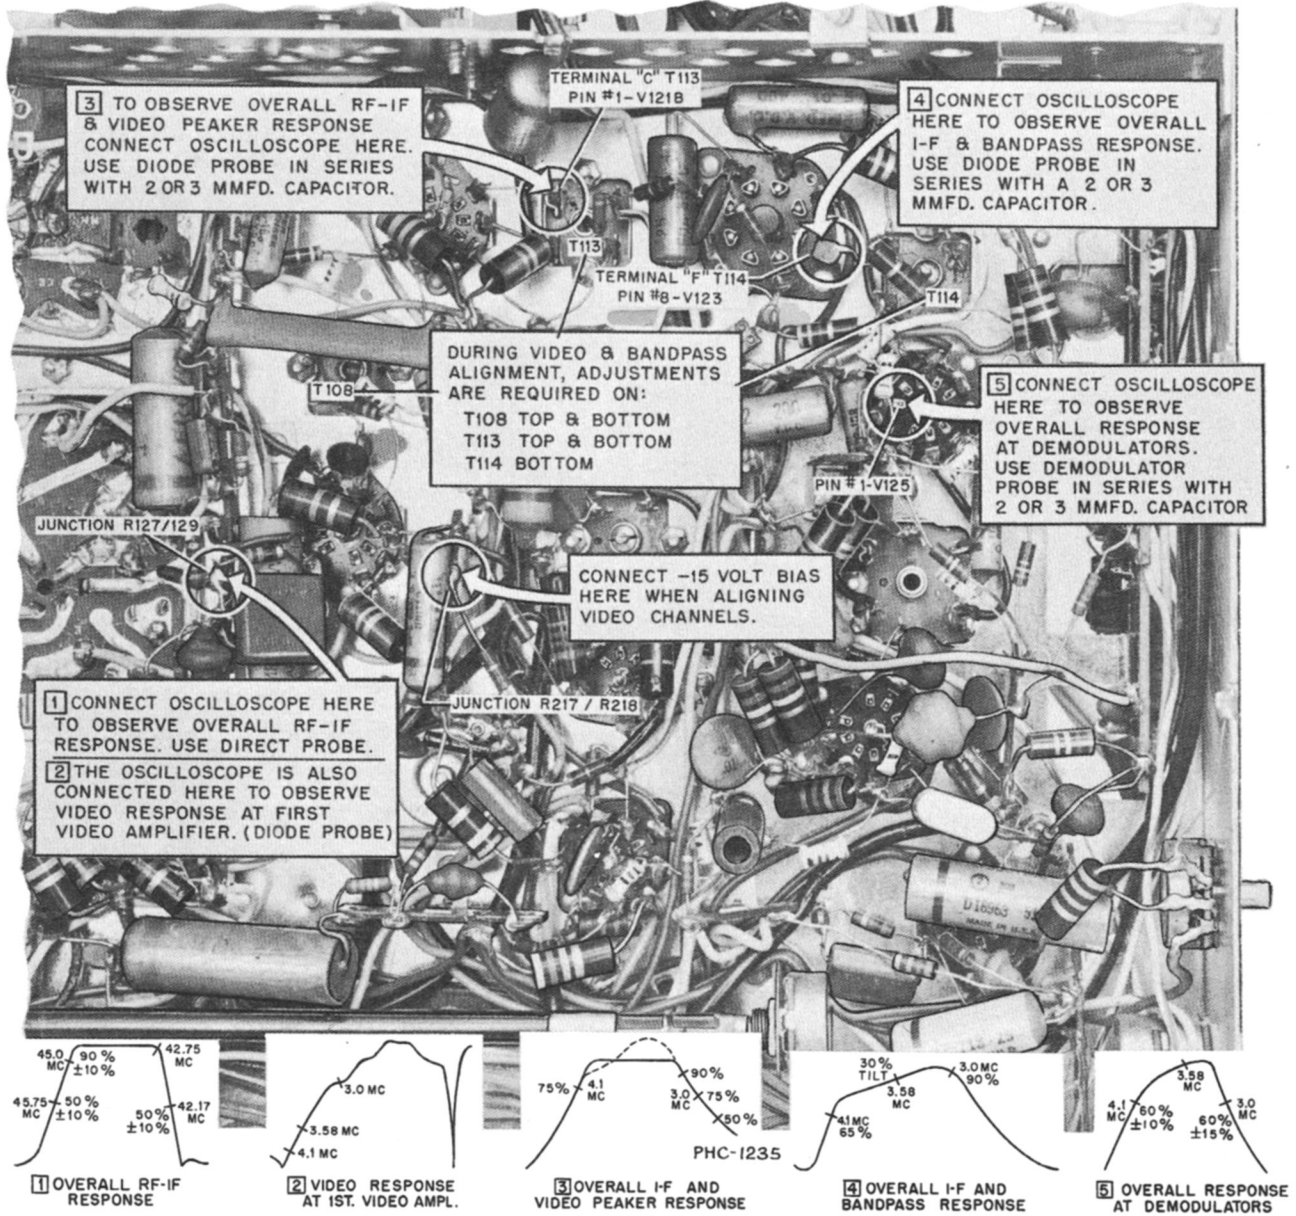

Fig. 174—Test Points and Procedure, Equipment Set-up. Overall R-F—I-F, Video and Bandpass Amplifier Alignment
1. Connect the oscilloscope, using the direct probe, to junction R-127/R-129 of the receiver, see figure 174.
7. Connect the Diode Demodulator Probe to the oscilloscope and fasten a 2 or 3 mmfd. capacitor to the tip of the probe for circuit isolation. *This capacitor should remain connected for the balance of the alignment.* Check the response curve at junction R-127/R-129. It should appear similar to that shown for point "2" of figure 174.
10. Connect the oscilloscope to terminal "F" of T-114 the demodulator driver transformer (refer to figure 174 and adjust the bottom core of T-108, and the top and bottom cores of T-113 for the response shown for point "4" of figure 174.
11. Connect the oscilloscope probe to pin 1 or 6 of the R—Y and B—Y demodulator socket, V-125. Adjust T-114, if necessary, for maximum amplitude of the response curve shown for point "5" of figure 174. If, during the alignment of the bandpass amplifier, the response curve cannot be made to look like that shown for points "4" and "5" of figure 174 check the following circuit components: